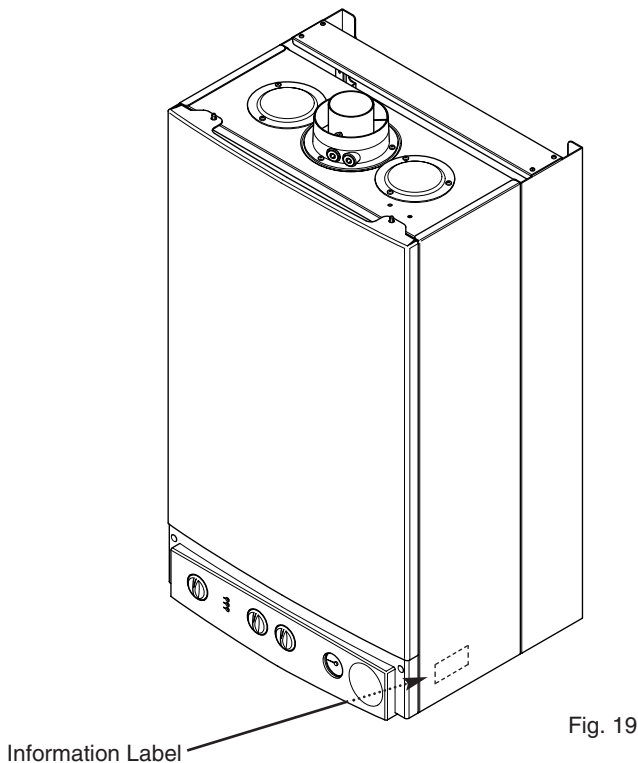

Fig. 19
3. The name, model number, and serial number can be found on a label on the inner face of the lower right hand case panel (Fig 19).